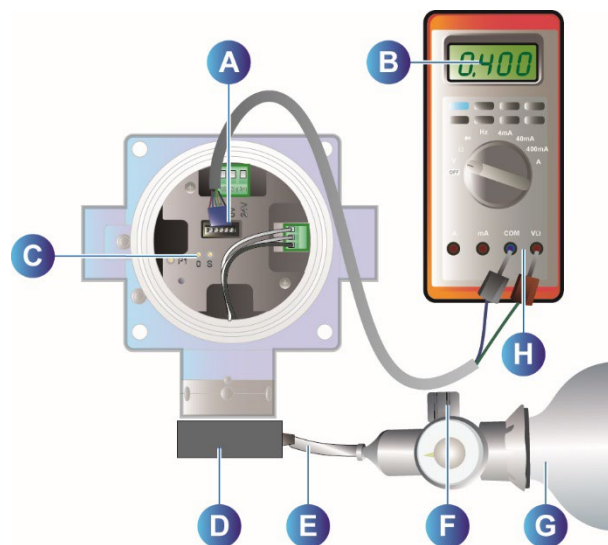

Figure 13: Zeroing and Sensitivity adjustment (OLCT 100)
2. Insert the blue and green plugs on the measurement lead into the + and - multimeter sockets, respectively (Figure 13, "H")
2. Insert the blue and green plugs on the measurement lead into the + and - multimeter sockets, respectively (Figure 13, "H").